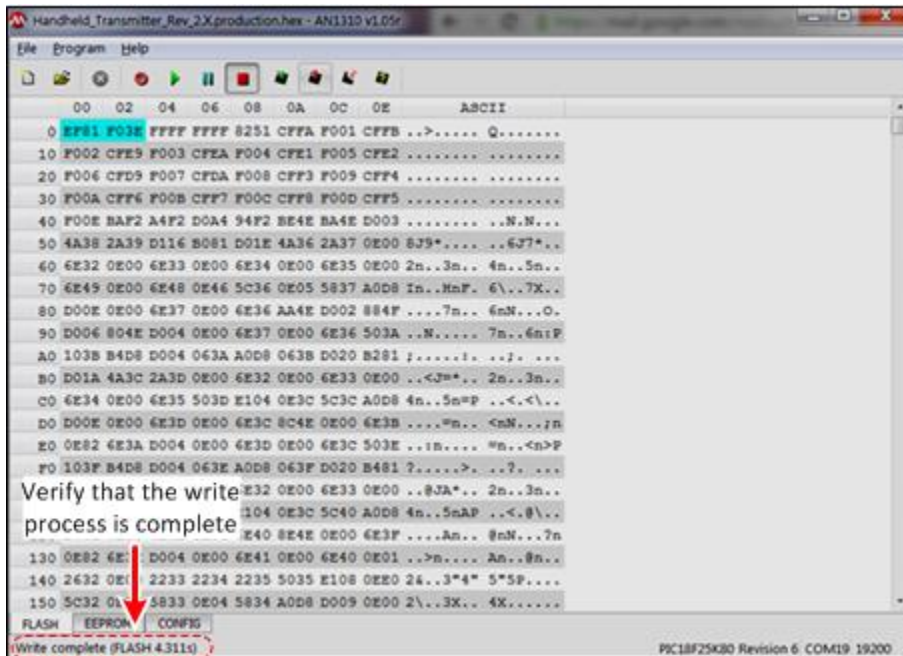

FIGURE 6-5 SERIAL BOOTLOADER PROGRAM – PROGRAMMING FIRMWARE
STEP 9	Click on the “Write Device” button, to program the firmware – see Make sure that the bottom toolbar indicates that the programming was successful – see Figure 6-5.